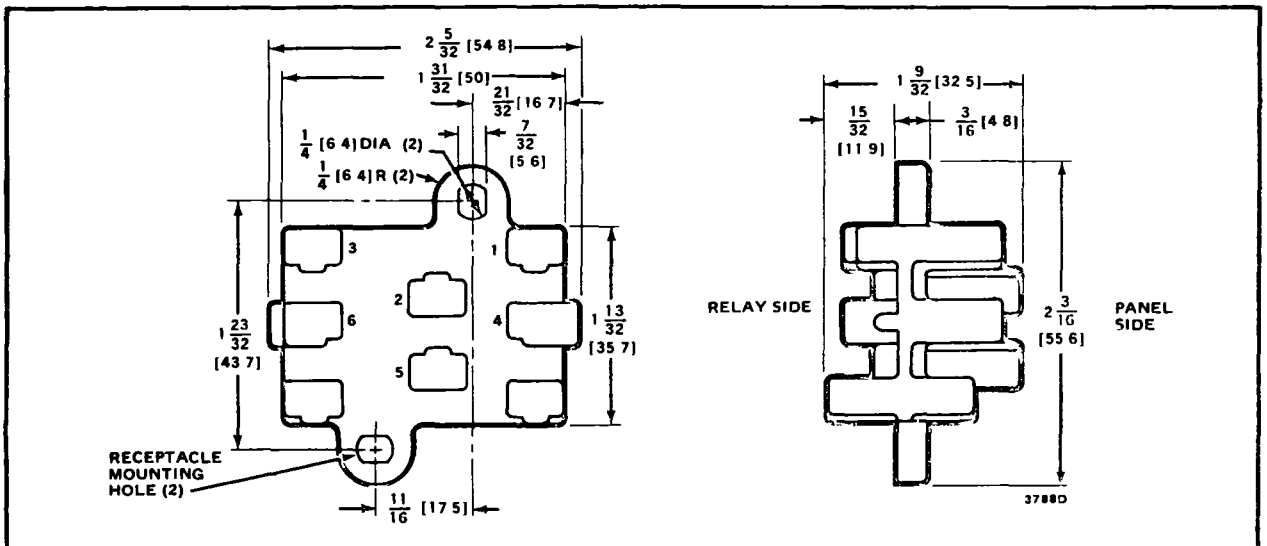

FIG. 2—DIMENSIONS OF WIRING RECEPTACLE.
2. 4074BVJ Receptacle with 8 color-coded plug-in leadwires and retaining bail, for panel mounting applications, see Fig. 2.